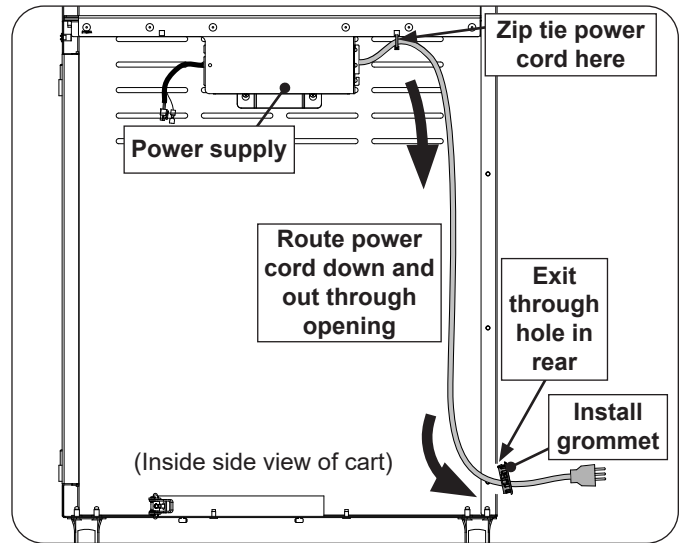

Fig. 10-2 Route power cord down and out
2. Route the power cord down the right side of the unit and feed it through the hole to exit the cart. See Fig. 10-2.
3. Install the included power cord grommet (with flexible covering). See Fig. 10-2.
4. Use a provided zip tie to secure the power cord in place. Cut off the excess tie. See Fig. 10-2.